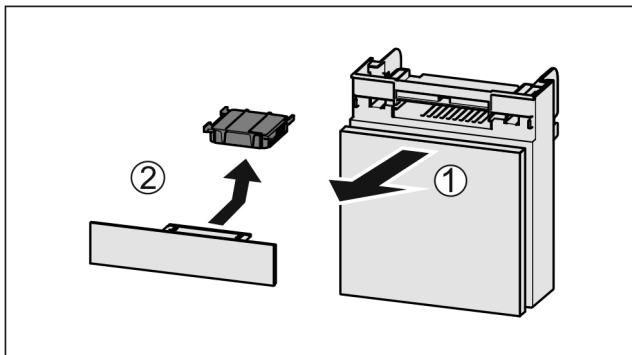

Fig. 56
- ▶ Pull out the compartment Fig. 56 (1).
- ▶ Remove the carbon filter Fig. 56 (2).